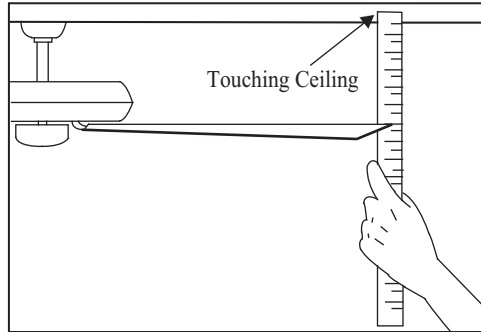

Figure 15
2. Most fan wobble problems are caused when blade levels are unequal. Check this level by selecting a point on the ceiling above the tip of one of the blades. Measure from a point on the center of each blade to the point on the ceiling. Measure this distance as shown in Figure 15. Rotate the fan until the next blade is positioned for measurement. Repeat for each blade. Measurements deviation should be within 1/8". Run the fan for 10 Minutes.